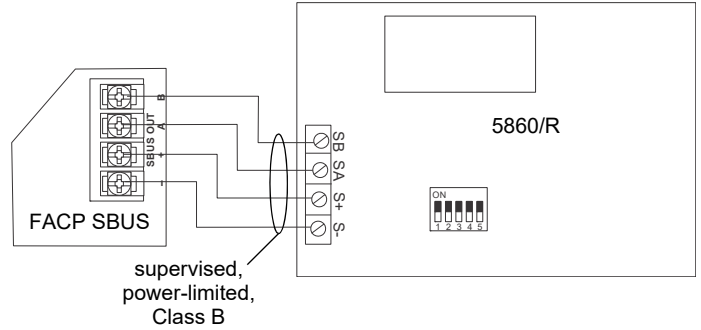

Figure 5 SBUS Connections
3. Connect the 5860/R to the panel (see Figure 5).